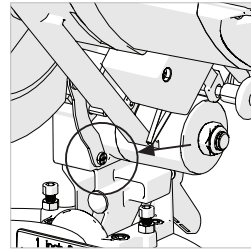

Fig. 28
- Release the Retractable Lower Guard Operating Lever by removing and safely storing its pivot screw. **(Fig. 28)**